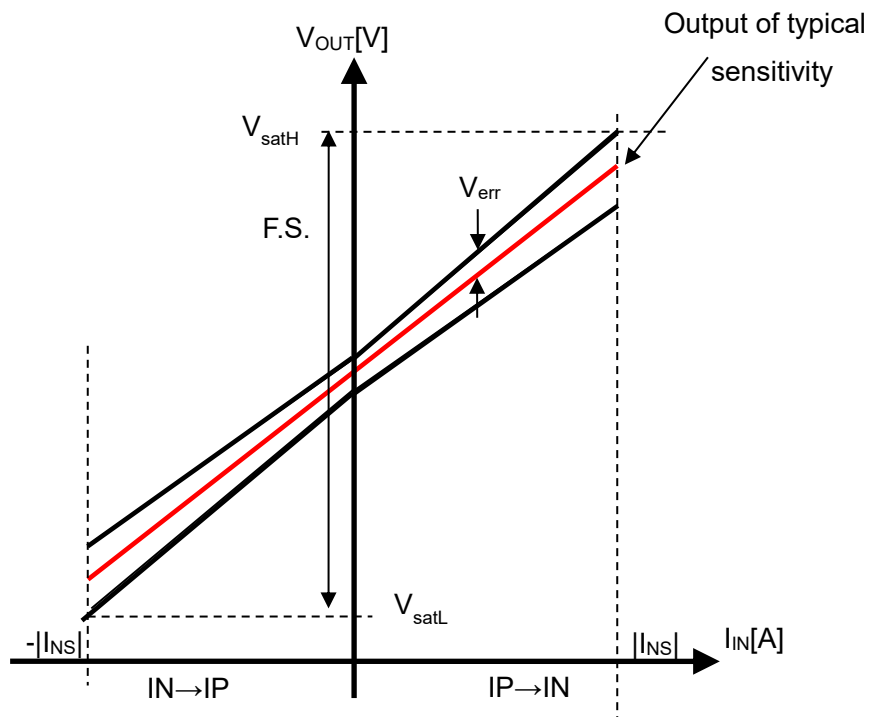

Figure 4. Total Accuracy of CZ-3A07
10.2. Total Accuracy E_{total} [%F.S.] is defined as below (See Figure 4.)